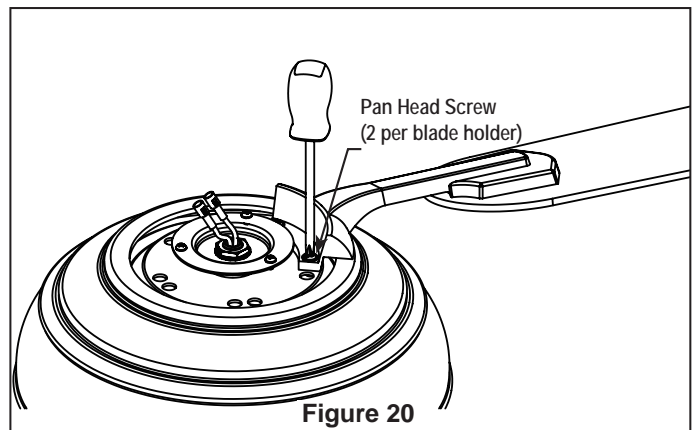

Figure 20
3. Secure the blade holders to the motor support using the 1/4-20 x 14 mm screws through the holes located on the side of the motor support (Figure 20).